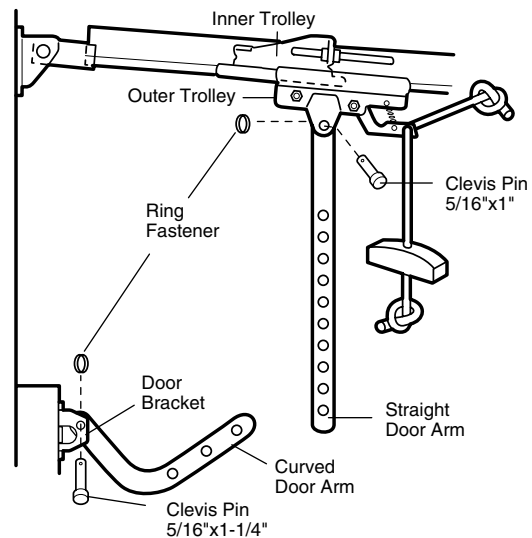

Figure 1
- Make sure garage door is fully closed. Pull the emergency release handle to disconnect the outer trolley from the inner trolley. Slide the outer trolley back (away from the door) about 5 cm as shown in Figures 1, 2 and 3.
- **Figure 1:**